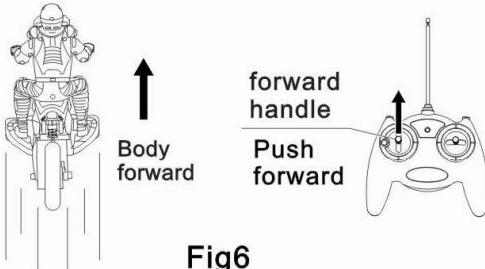

Fig6
1. Put the body on the ground, push the "forward handle" of remote, body moving forward. (Figure 6)